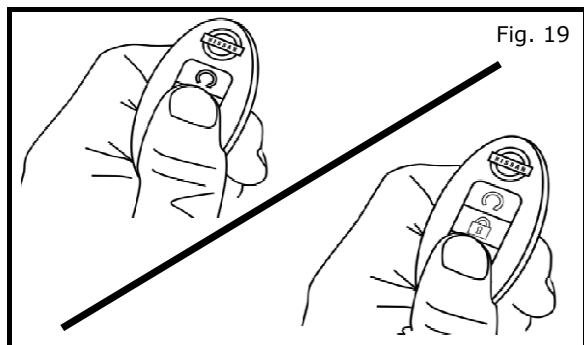

Fig. 19
- a) From outside vehicle press Lock on Fob 1 and Unlock on Fob 2 and confirm that vehicle responds accordingly as shown Fig. 19.
- b) From outside vehicle press Lock on Fob 2 and Unlock on Fob 1 and confirm that vehicle responds accordingly as shown Fig. 19.